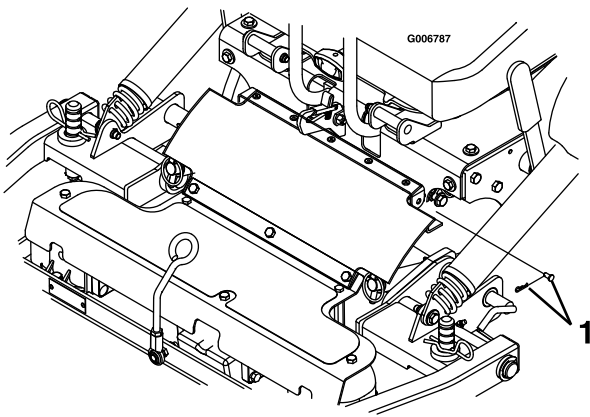

Figure 11
3. Remove the hairpin cotters and clevis pins from both sides of the PTO guard (Figure 11).